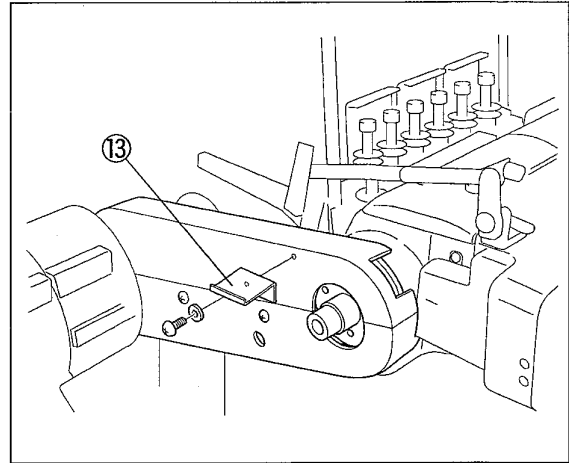

Fig. 2-25
Set the positioning plate⑬ on the belt cover(upper). Set the synchroniser on the machine pulley and fix it with the positioning plate⑬ (see Fig.2-25).